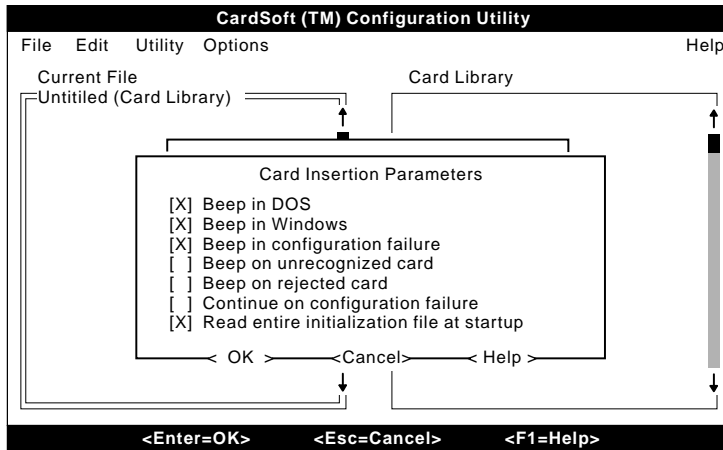

Figure B-3. Card Insertion Parameters Menu
- When you are finished configuring the port information for the card, select **Card Insertion Parameters**. The Card Insertion Parameters screen appears (see Figure B-3).